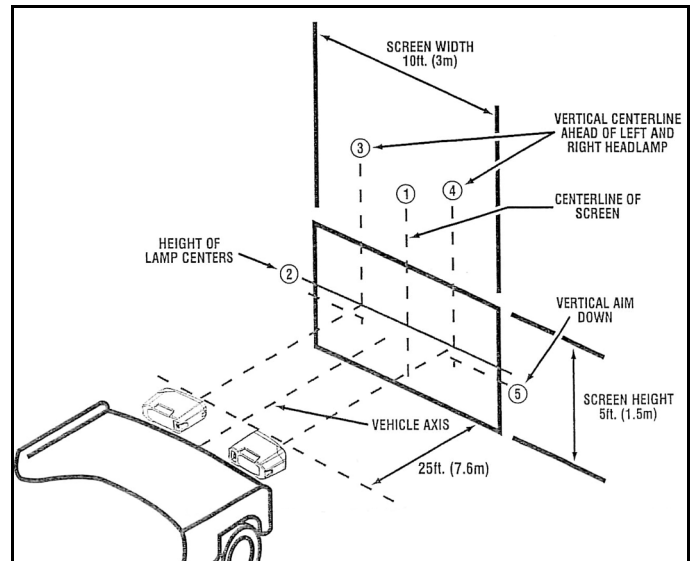

Figure 2-10 Alignment of Headlamp Aiming Screen
The vehicle must be positioned 25 feet (7.6 m) away from the aiming wall. The center of the vehicle must be aligned with the center of the wall. This can be facilitated by using black tape to mark the wall. The wall will require a vertical line that represents the center line of the vehicle and the wall (Line 1), and a horizontal line that represents the center line height of the snow plow lamps (Line 2), (reference item 9 below). The wall will also require two vertical lines bisecting the horizontal line that provides the distance between the snow plow headlamps (Lines 3 left and 4 right). Locate the high beam light on each snow plow lamp and project the location onto the front lens with the aid of a small 1/2" piece of black tape. Then, using a tape measure, accurately measure the distance between the black tape left and right light centers. Once the distance has been determined, divide the distance by two. This is the distance between Line #1 to Line #3 and Line #1 to Line #4. (See Figure 2-10). Finally, the wall will require a horizontal line that represents the nominal vertical aim position down (Line 5), (reference item 10 below) (See Figure 2-10).
10. Reference Table #1 and determine the nominal vertical aim down below the horizontal center line of the snow plow headlamps. Using black tap, draw this horizontal line (Line 5) (See Figure 2-10).